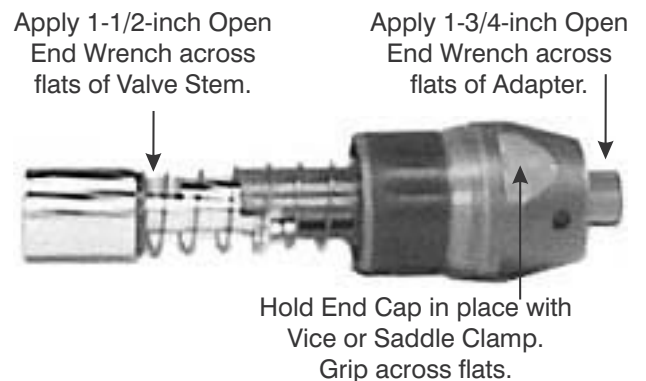

Figure 8-12. Remove Valve Stem from Adapter.
- Use a 1-3/4-inch open-end wrench to hold the Adapter (16) in place, as shown in Figure 8-12.
- With a 1-1/2-inch open-end wrench across the flats of the Valve Stem (8), thread the Valve Stem (8) from the Adapter (16) as shown in Figure 8-12.